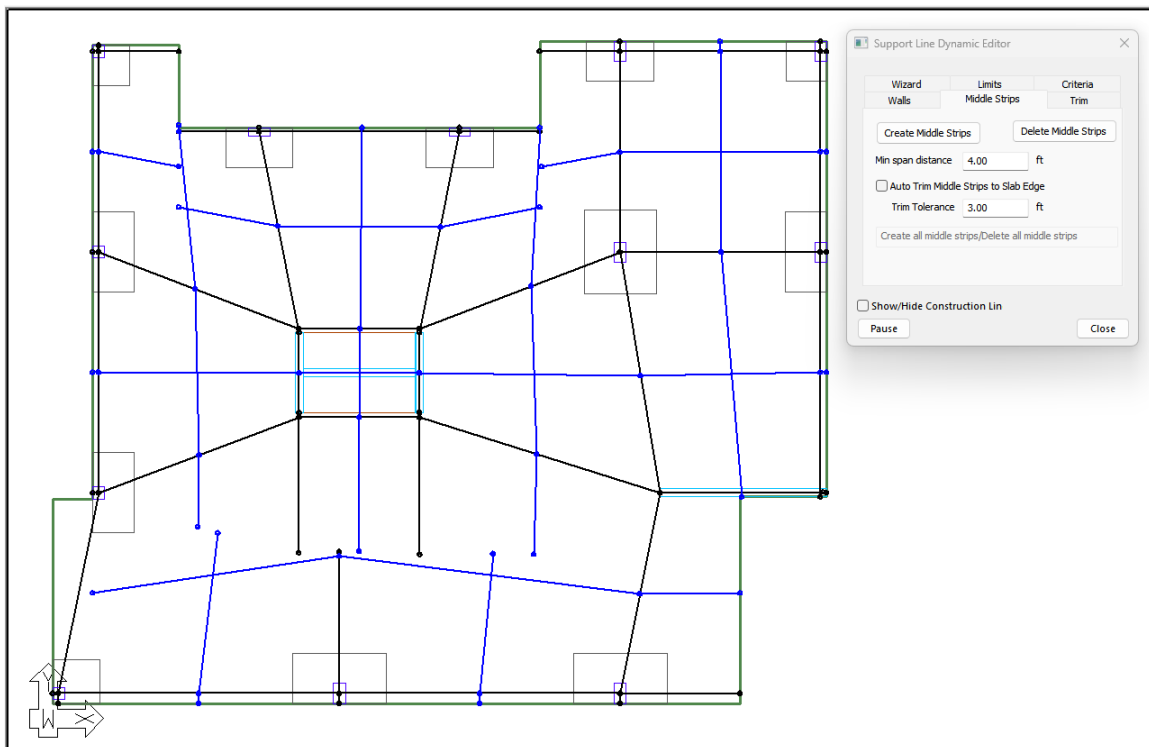

FIGURE 10-12
- Click on the **Create Middle Strips** button to create the middle strips support lines. The middle strip support lines initially will be shown in blue as seen in **FIGURE 10-12**.